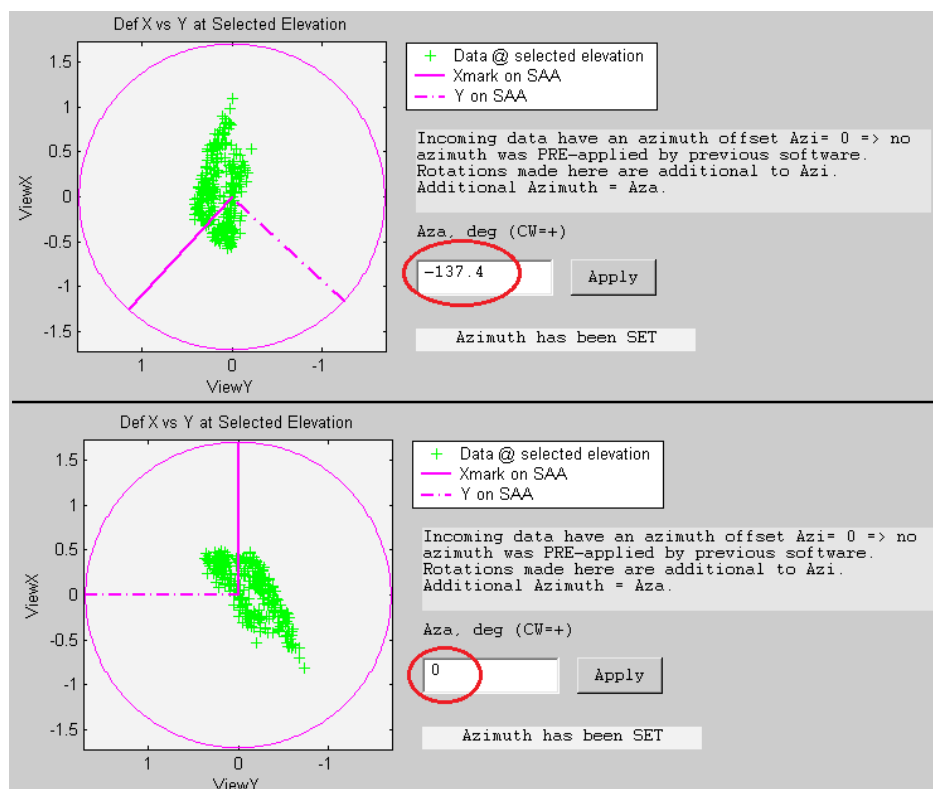

Figure 7.29: Changing the Aza (Project: boston_uk_tides_pz).
- **Aza** is "additional Azimuth" set in this window. The SAAXMark and SAAYMark lines, and the XY plot of data in the XY graph ARE rotated by Aza. If Aza = 0 then SAAXmark faces up as seen in **Figure 7.29**.